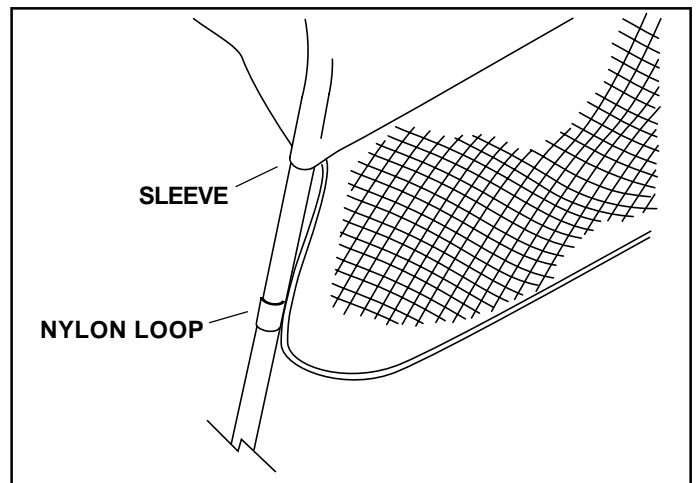

FIGURE 6
- Unfold sun shade and locate the nylon loops found on the mesh portion of the sun shade. The mesh is located at the rear. See figure 6.
- Hold the sun shade in front of the top tubes and slip the nylon loops onto the ends of the top tubes. Slide the sun shade along the top tubes, inserting the ends of the tubes into the stitched sleeves on each side of the sun shade. Continue until the ends of the tubes extend out in front of the sun shade. See figures 6 and 7.